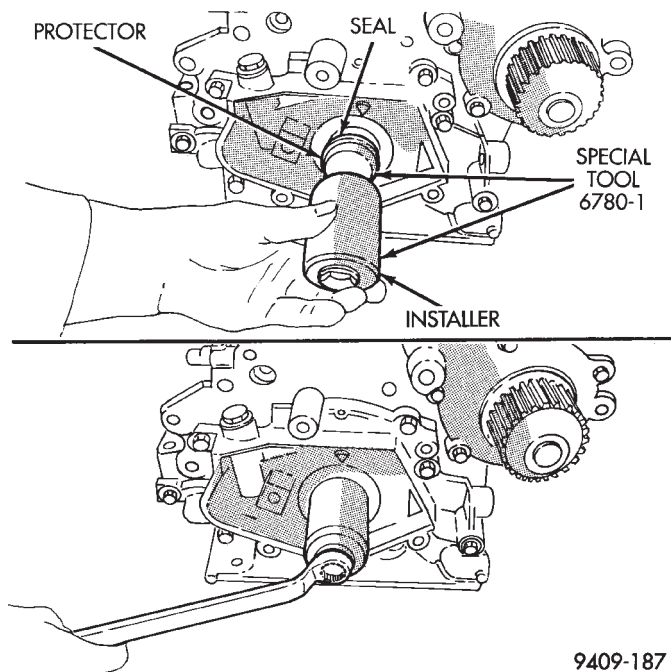

Fig. 89 Front Crankshaft Seal—Installation
(5) Torque all oil pump attaching bolts to 28 N·m (250 in. lbs.).
(6) Install new front crankshaft seal using Special Tool 6780 (Fig. 89).